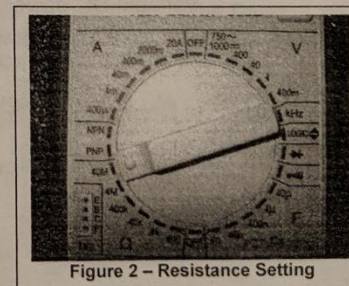

Figure 2 – Resistance Setting
2. Set the DMM center dial to the Ω 40M range as per **Figure 2** and attach the DMM test leads to the other ends of the wires.